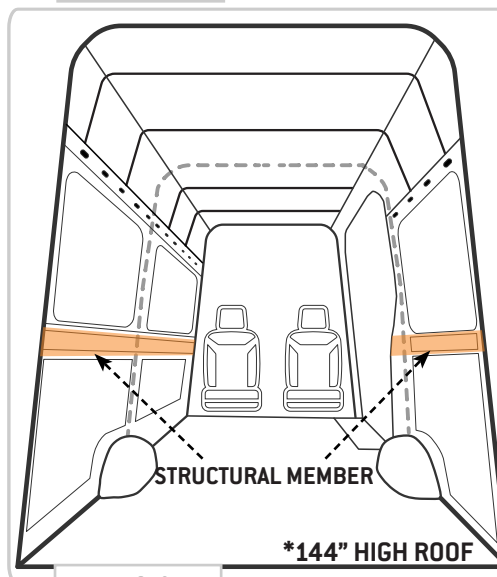

FIG 8
2.2c The structural member along the wall that provides the most surface area for securing the rails is highlighted in **FIG 8**.